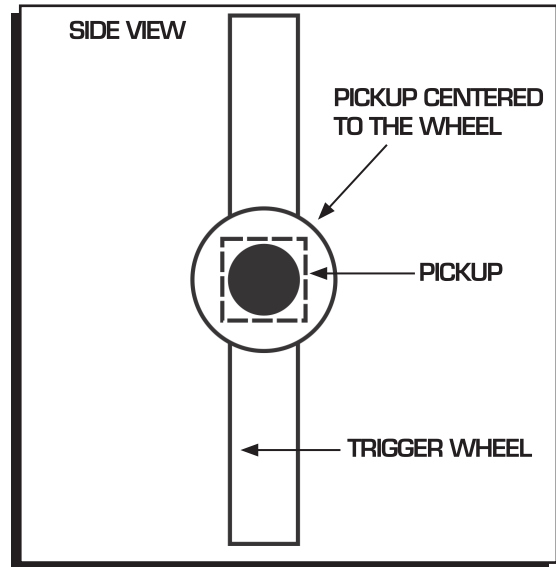

Figure 2. Pickup Centered on the Trigger Wheel.
3. Check and make sure the wheel is positioned correctly with the pickup and torque the trigger wheel bolts to 25 - 30lb-ft. The pickup should be centered to the edge of the trigger wheel (Figure 2). If not, it may be necessary to add or delete shims to the pickup bracket to achieve the proper position.